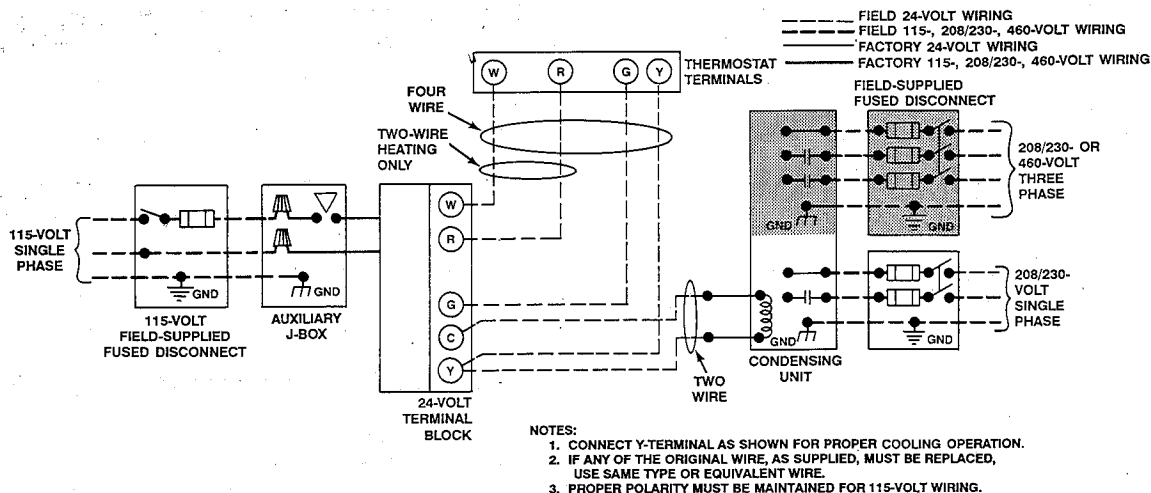
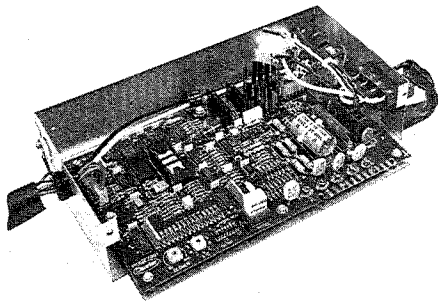
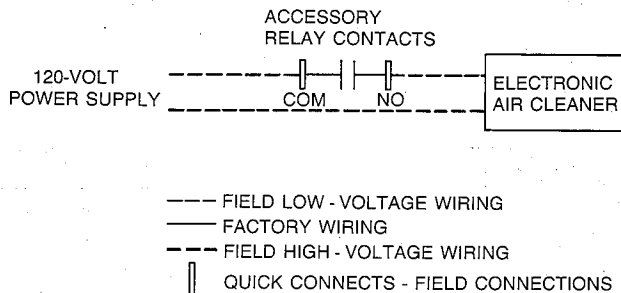

Fig. 7—Heating and Cooling Application Wiring Diagram
Fig. 8—Microprocessor Control Center A87335
Fig. 9—Electronic Air Cleaner
See Fig. 7 for a wiring diagram showing the proper field 115- and 24-volt wiring. Check all electrical connections (both factory and field) for tightness.
An isolated set of normally-open contacts (not connected to 24 vac or 120 vac) are available to operate any accessory such as an electronic air cleaner (EAC) or humidifier. The relay contacts will close whenever the blower motor is operating. These contacts are accessible by two 1/4-in. quick connects mounted directly on the relay as shown in Fig. 8. Wire leads with quick connects have been supplied as part of the control box wiring to simplify hookup per the three possible combinations shown in Fig. 9, 10, or 11.
4. Cut wire tie that surrounds accessory hookup leads. (See Fig. 8.)
NOTE: For 120-volt accessory hookup, see items 5 through 11 and Fig. 9 or 10.
5. Locate black pigtail lead from 120-volt terminal block (TB) and cut off tip of insulator—allowing 1/4-in. quick connect to be used.
24-VOLT WIRING — Make field 24-volt connections at the 24-volt terminal block on the control center; connect Y terminal as shown in Fig. 7 for proper cooling operation. The 24-volt terminal board is marked for easy connection of field wiring. (See Fig. 8.)
NOTE: If a bypass-type humidifier is used, the bypass humidifier switch on the microprocessor control board must be placed in the ON position to increase the low-heat blower motor speed. This prevents nuisance limit trips caused by the increase in return-air temperature caused by the bypass from the humidifier. (See Fig. 8 for BPH switch location.)
For proper furnace operation, follow the installation instructions provided by the modulating damper system manufacturer. In addition, the multizone switch (labeled MZ on the microprocessor control board) must be placed in the ON position so the microprocessor can vary the blower speed to compensate for dampers that have modulated closed during heating or cooling cycles. (See Fig. 8 for multizone setup switch MZ location.)